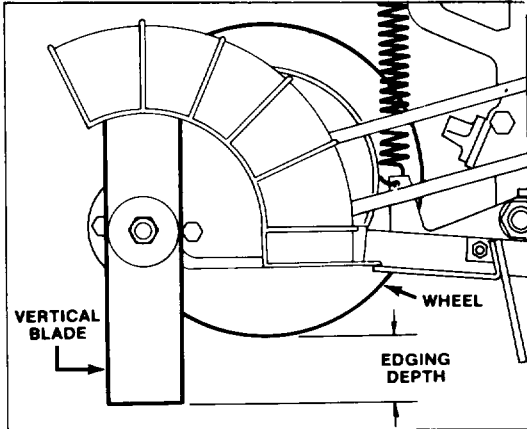

Figure 10
2. CHECK EDGING DEPTH (Fig. 10) – Squeeze blade/clutch lever against handle. Space between bottom of tire and ground is actual blade edging depth. If adjustment is required, go to step 3.